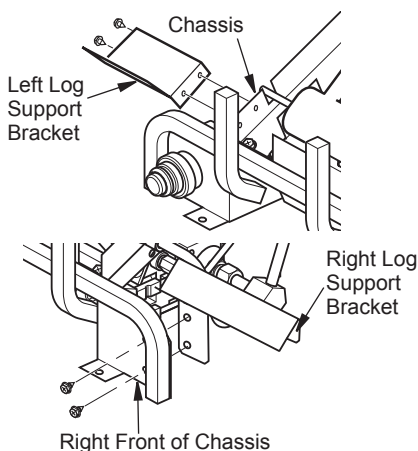

Figure 18 - Installing Log Support Brackets
1. Open equipment shutoff valve (see Figure 18).
1. Install left bracket to left side of chassis using 2 screws provided (see Figure 18).
2. Install right bracket to right front of chassis using 2 screws provided (see Figure 18).